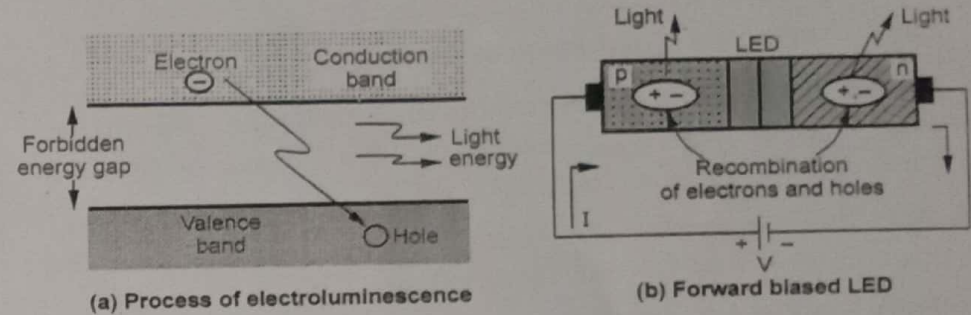

Fig. Q.4.1 Principle of operation of LED
- The Fig. Q.4.1 shows the principle of working of LED.